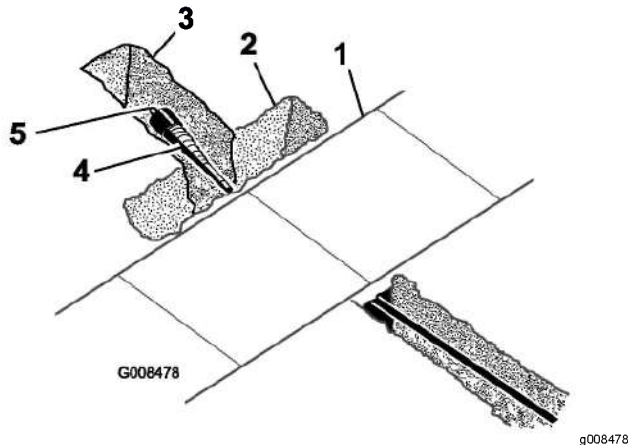

Figure 6
1. Using a shovel, carefully dig around the boring bit, clearing it of soil until you can remove the bit (Figure 6).
2. Remove the boring bit and attach the reamer (Figure 6).
3. Attach the cable or piping being installed to the swivel on the end of the reamer (Figure 6).